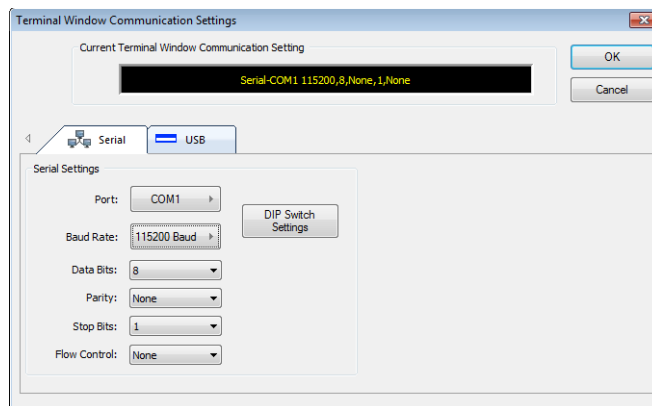

FIG. 154 NetLinX Studio - Terminal Window Communication Settings dialog
3. Select Tools/Terminal Session (if you use another terminal emulation program, be sure to set the COM port and the communication settings per Step 4). The Terminal Window Communication Settings dialog opens (FIG. 154):